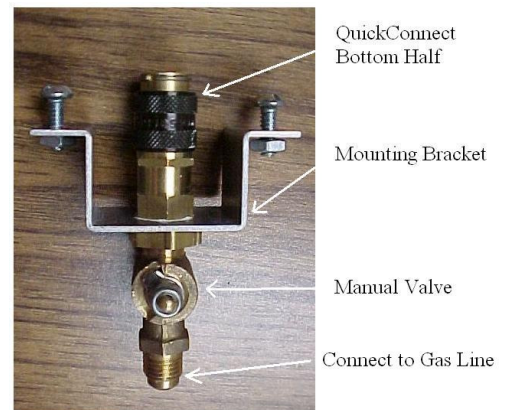

Figure 1
7. The quick-connect fitting with modified manual shut-off valve shall be preinstalled in the bracket (See Figure 1) before installing in the light. NOTE: Apply TFE Paste thread sealer to each connection if not already applied. (Photo shows GLM manual valve, another valve may be substituted).